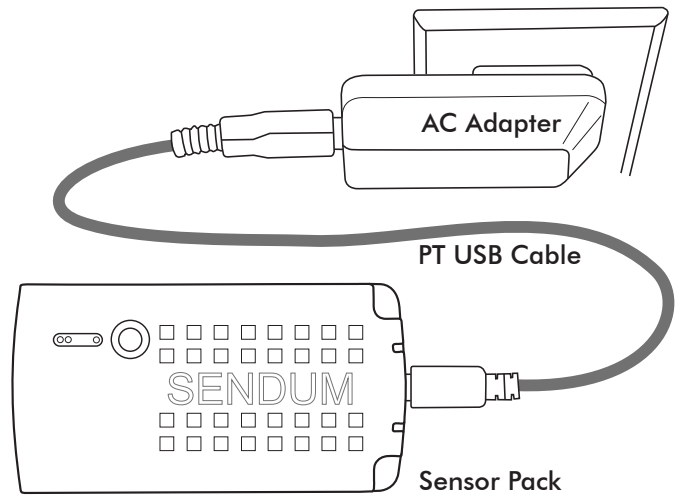

Figure 3 - Charging up a Sensor Pack
- If you are using either the Basic Sensor Pack or the Advanced Sensor Pack, you can charge it by connecting it to the AC Adapter and then plugging the adapter into any standard electrical receptacle (see "Figure 3 - Charging up a Sensor Pack").